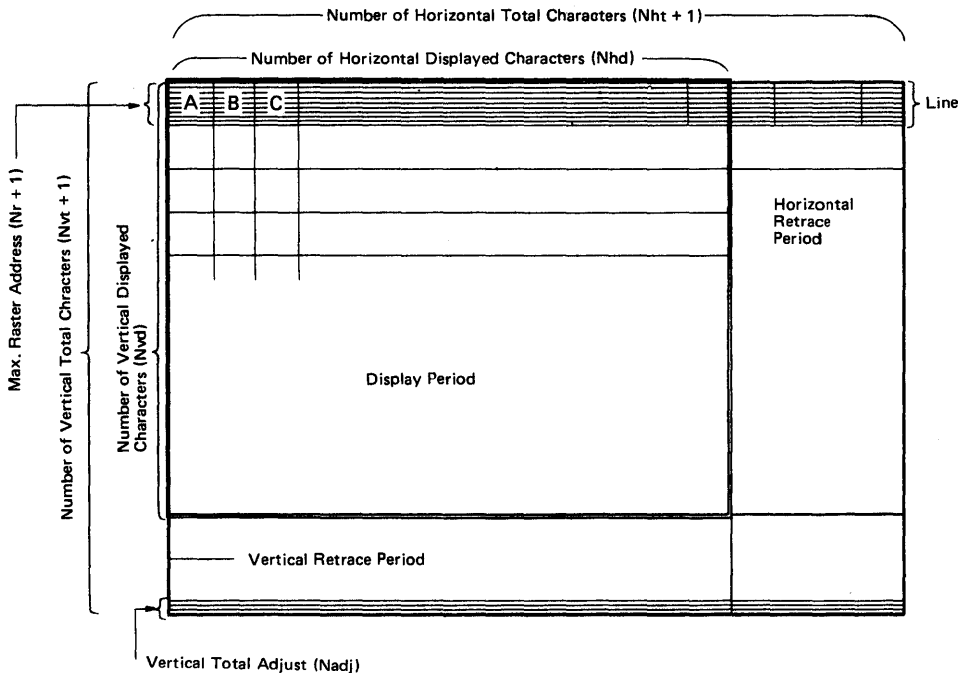
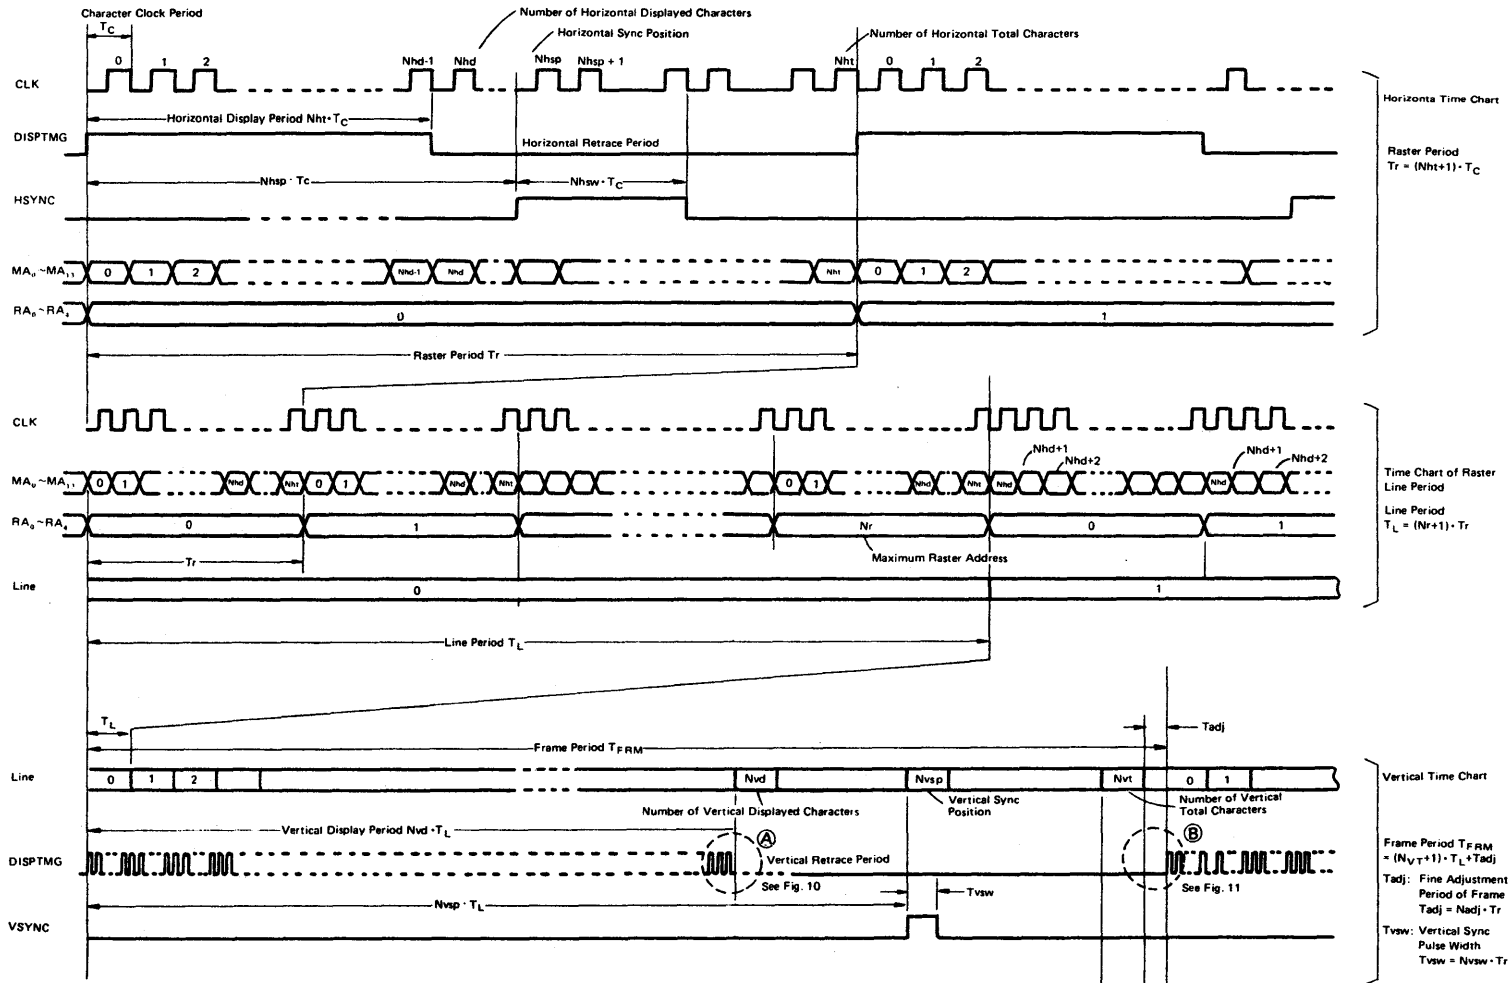

Figure 6 CRT screen Format
Figure 9 CRTC Time Chart
The following example shows the display operation in which values of Table 8 are programmed to the CRTC internal registers. Fig. 6 shows the CRT screen format. Fig. 9 shows the time chart of signals output from the CRTC.
(Expansion of Fig. 9- (B))